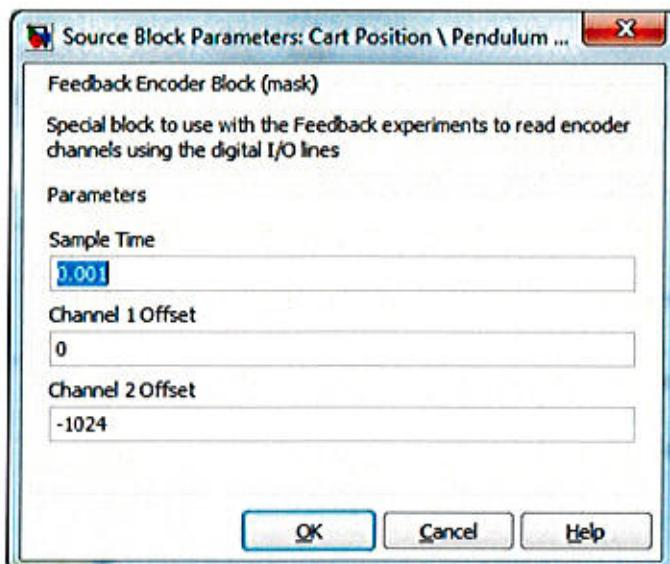

Figure 36 Feedback Encoder Block Parameters
- By double clicking on this block we can change the above parameters (see Figure 36).